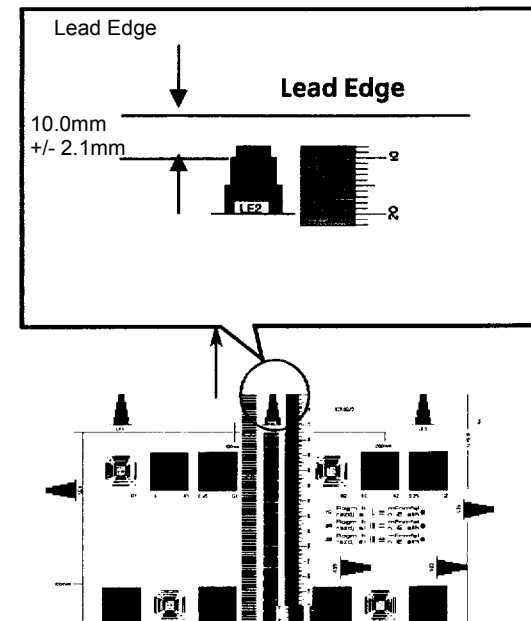

Figure 1 Checking IIT Side Registration
2. On the 2nd copy, check that the distance from the lead edge to the top of Step 3 on the LE2 scale is $10.0\text{mm} \pm 2.1\text{mm}$ (**Figure 1**).